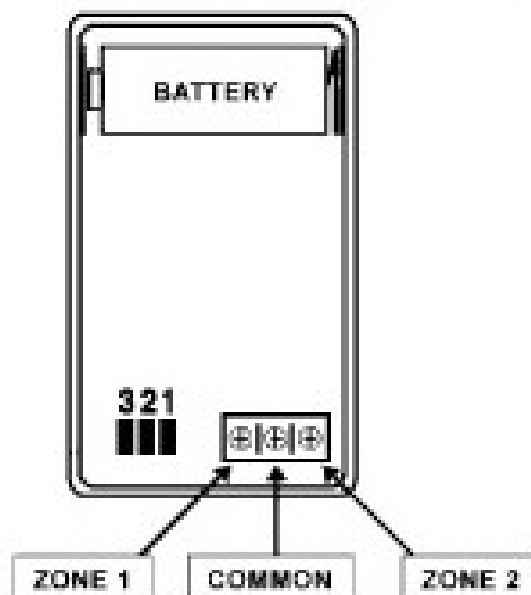

Figure 1
Step 1) See figure 1 for wiring zone 2.